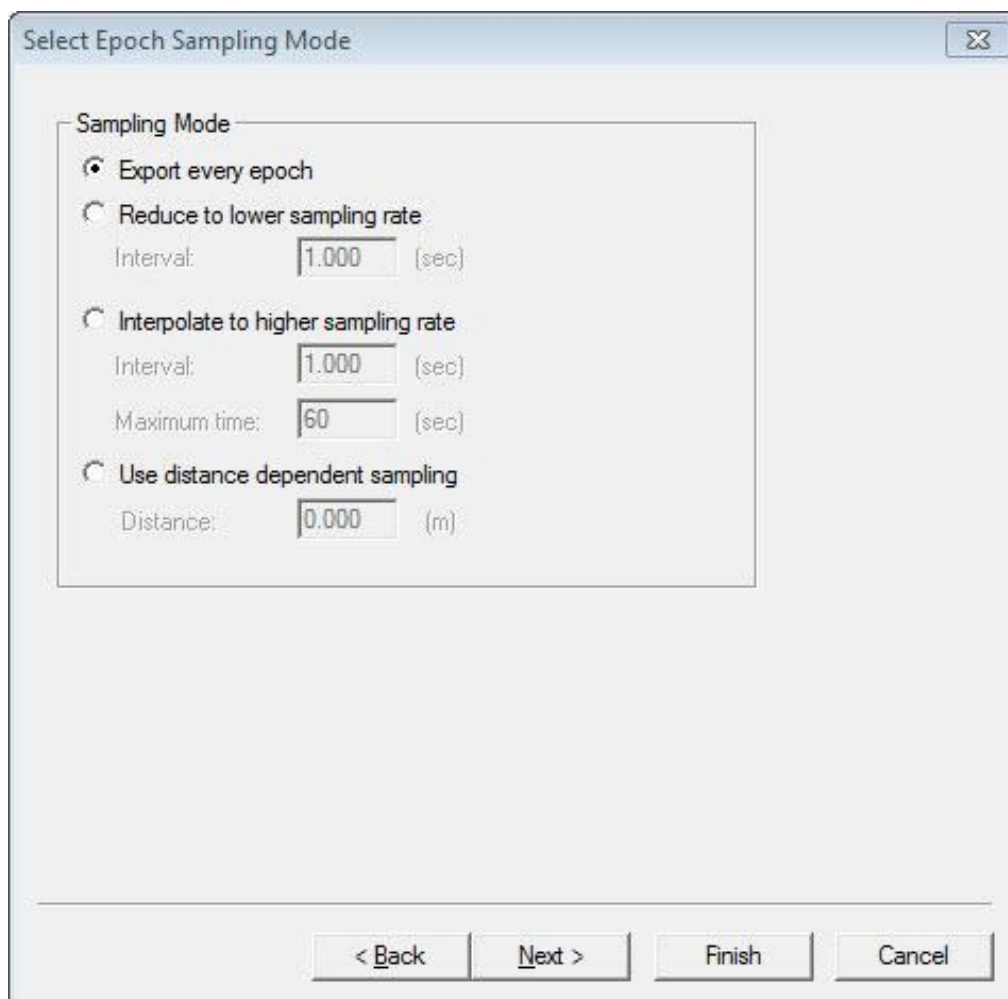

Figure 7-15 Select Epoch Sampling Mode Dialog
- In the **Select Epoch Sampling Mode** dialog (Figure 7-15), select the **Export every epoch** in the **Sampling Mode** section. Click **Next**.